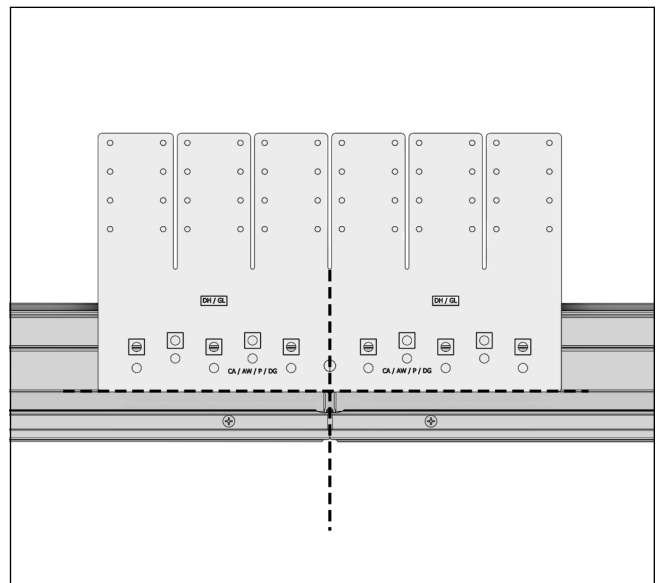

Figure 60
2. Center and align the bottom edge of the full gusset plate with the edge of the T-slot at all factory pre-assembled mull joints. If using a mounting flange, the full gusset plate can rest on flange for alignment. See Figure 60.